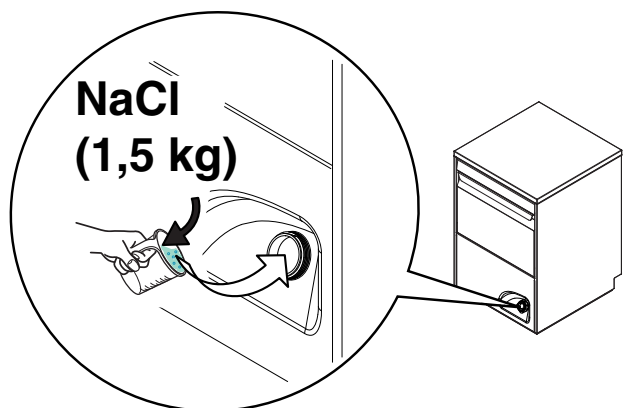

Figure 26
- Pour approx. 1.5 kg of coarse salt [NaCl] in container "A" (an amount sufficient to fill the salt container up to the rim) using the special funnel supplied (Figure 26).